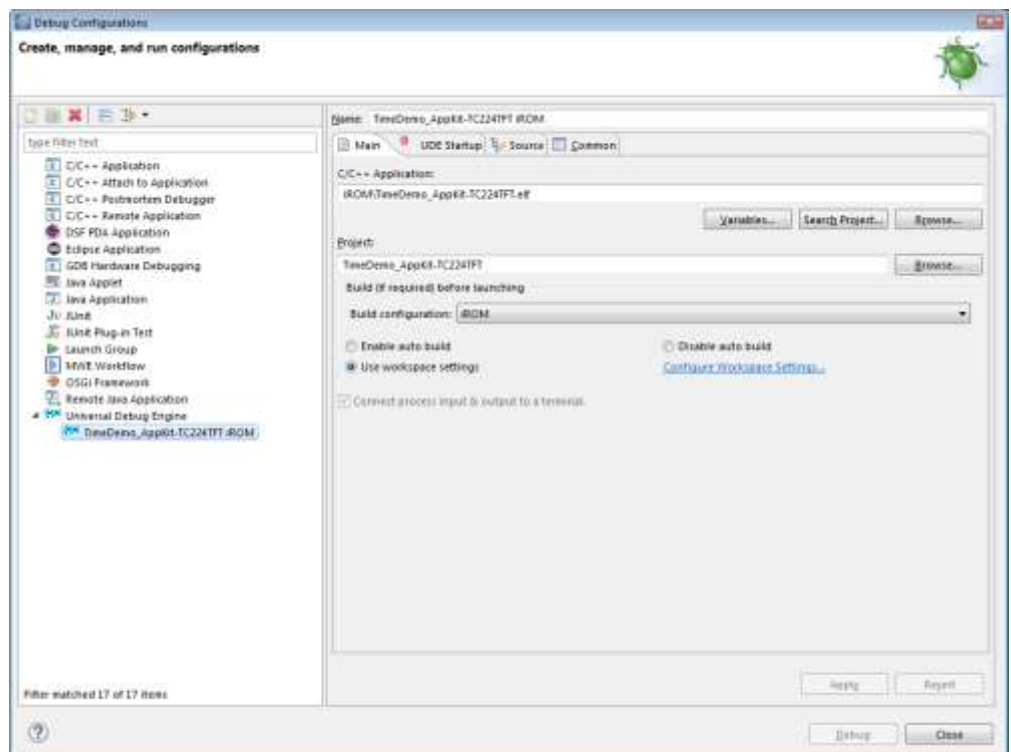

Figure 30 Create new debug launch configuration for Universal Debug Engine
3. Press the **New launch configuration** button to create a new debug launch configuration for Universal Debug Engine (Figure 30).